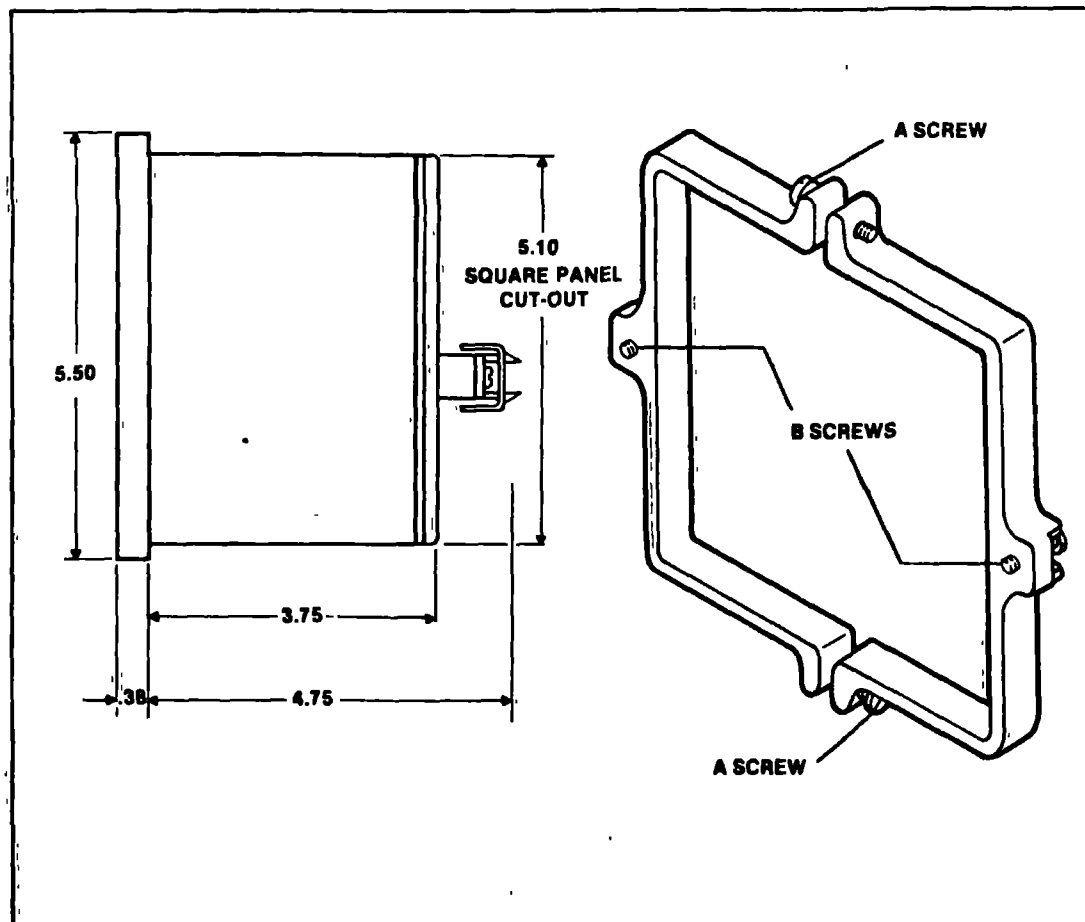

Figure 2. Detailed profile of the MK 575 (left) and isometric view of clamp ring (right).
- 1 Loosen the clamp ring (see two "A" screws in Figure 2)
5. Seal the front flange firmly against the panel by tightening the two "B" clamping screws hand tight (see Figure 2). Do not overtighten these screws. Overtightening will cause the clamp ring to slip.